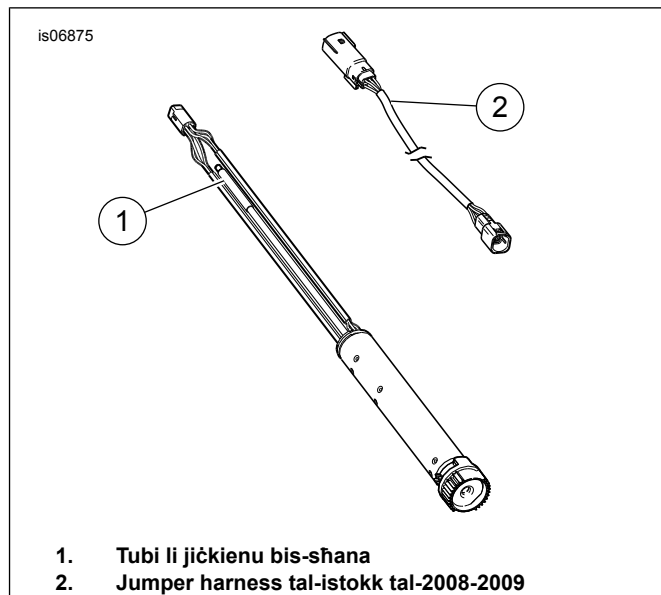

Figura 2. TGS u Harness tal-2008 u 2009
3. Ara Figura 2 . Aqla' l-jumper harness tat-TGS mit-TGS u l-harness ewlieni u armi l-jumper harness tal-istokk (2).